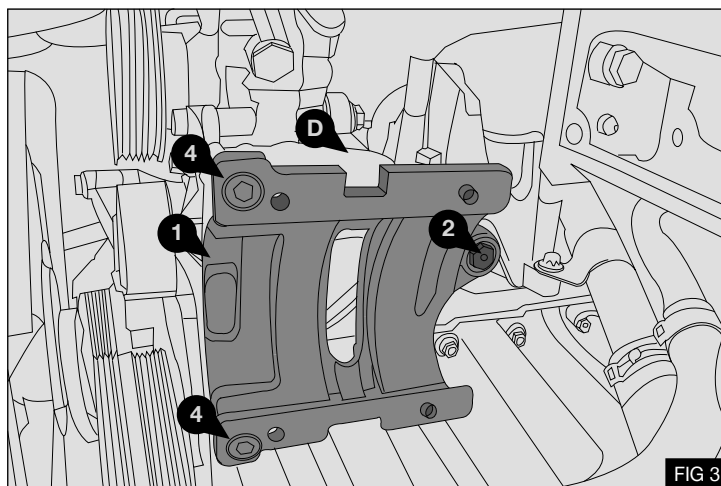

FIG 3
1. Loosely install the compressor mount bracket (1) onto the original mounting bracket (D), using the two supplied M8 x 25 hex head cap screws (4) and one M8 x 35 Bolt (2) - Fig.3
2. Torque the two mounting screws (4) to 29Nm / 21.4lb.ft and bolt (2) to 29Nm / 21.4lb.ft using a calibrated torque wrench - Fig.3